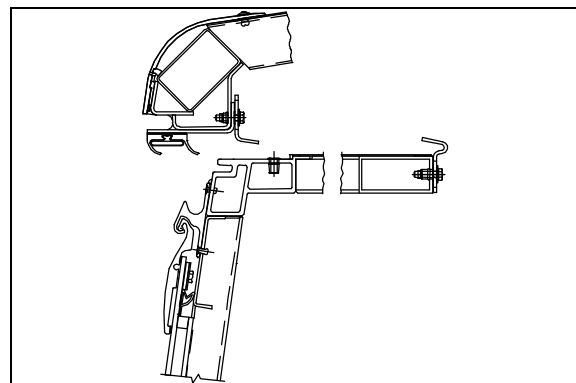

FIGURE 34 : SLIDE-OUT 2" INSIDE – UPPER PART
4. Turn the ignition to the off position. Using the manual override procedure, move the slide-out 2" inside the vehicle, so the seal is accessible from outside (figure 34).